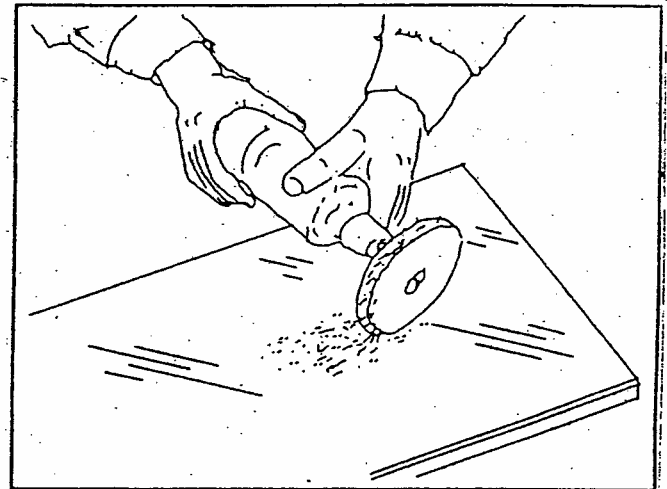

Figure 24
3. Repair the minor scratches using a polishing compound such as 3M Marine Trade products. See Figure 24.